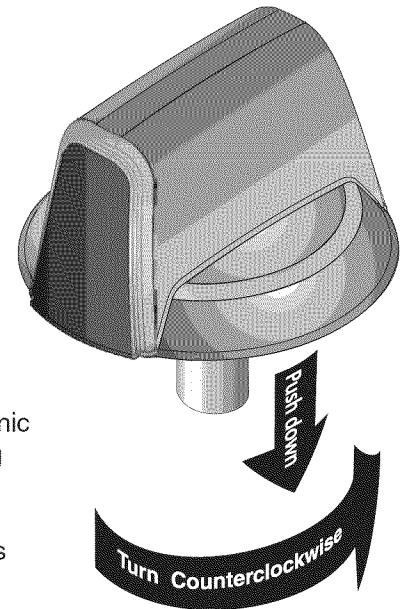

Figure 3
3. Release the knob and rotate to the LITE position (see figure 3). Note: All four electronic surface igniters will spark at the same time. However, only the burner you are turning on will ignite.